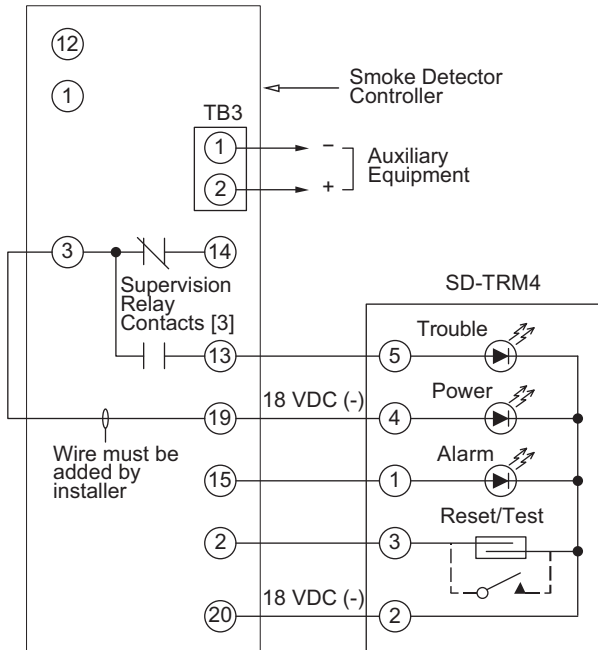

Fig. 50 — Remote Test/Reset Station Connections
The test/reset station dirty sensor test checks the test/reset station's ability to initiate a sensor dirty test and indicate the results. It must be wired to the controller as shown in Fig. 50 and configured to operate the controller's supervision relay. For more information, see "Dirty Sensor Test" on page 26.
1. Verify that the remote test/station is wired as shown in Fig. 50. Repair or replace loose or missing wiring.